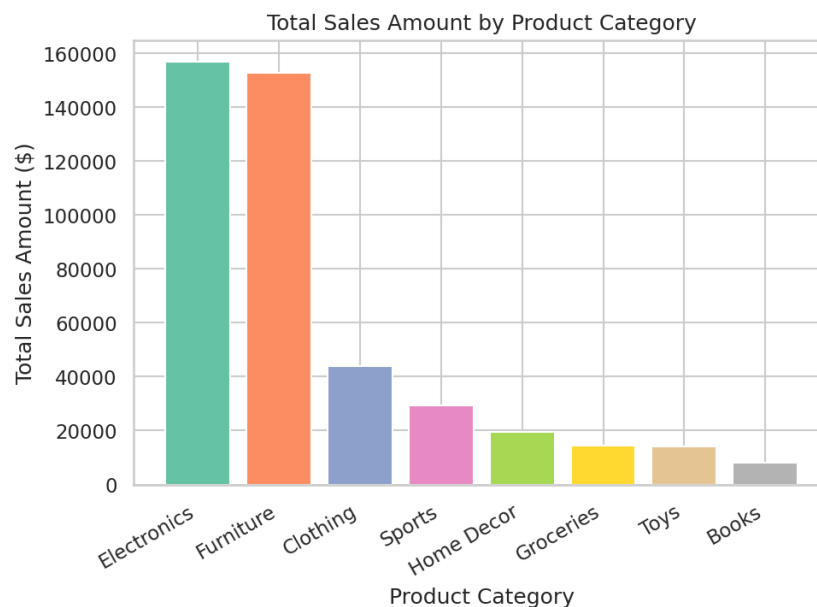
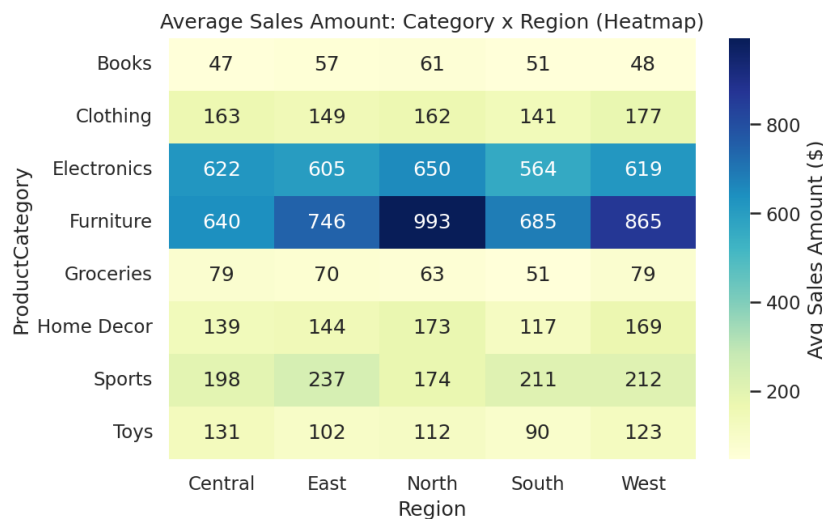
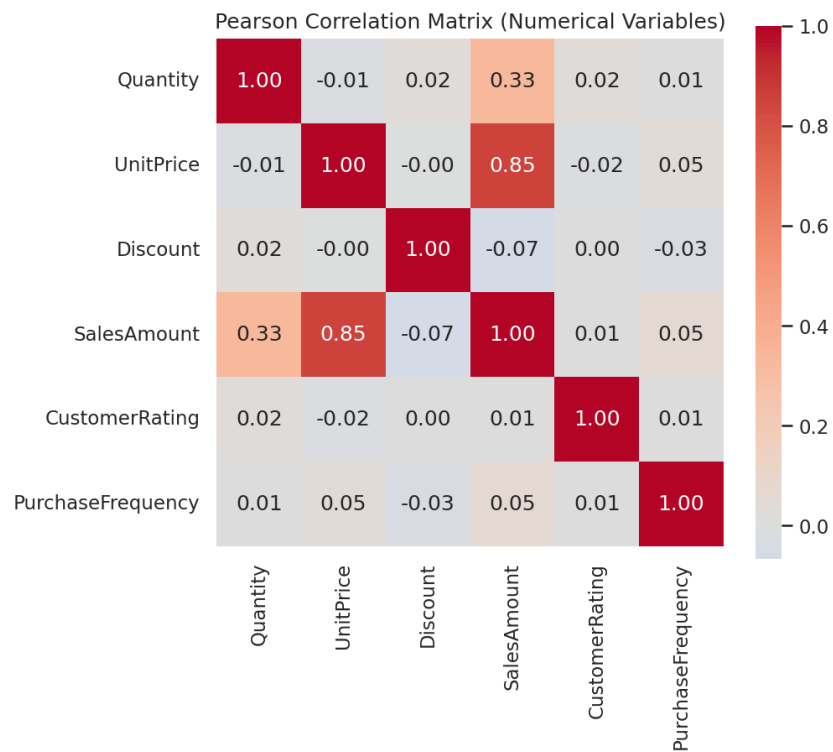
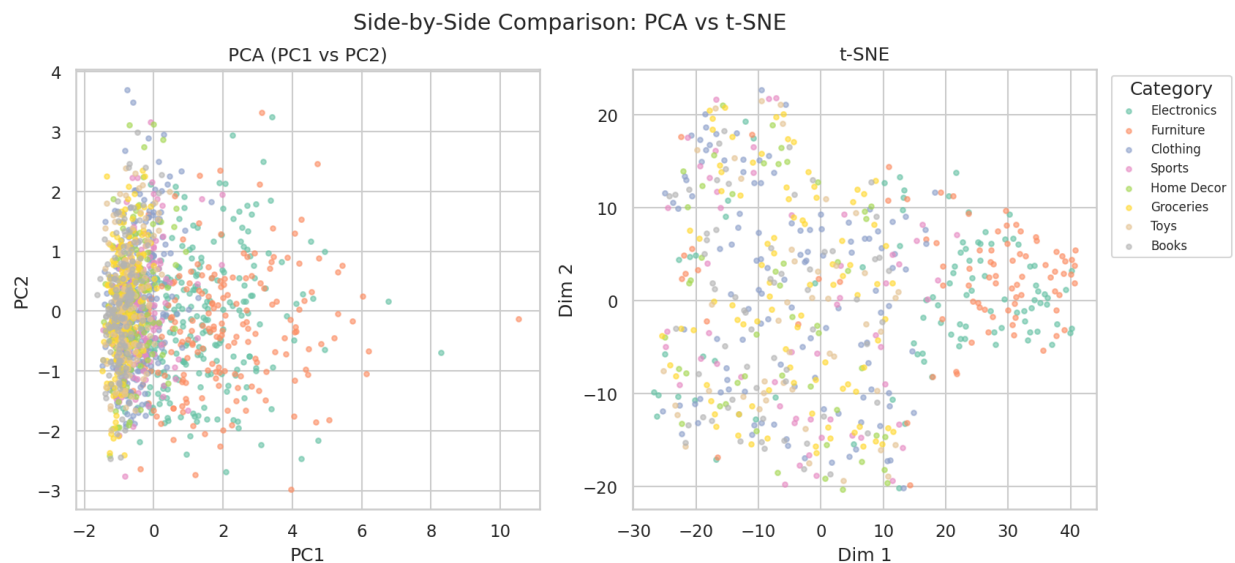

Figure 1: Total sales amount by product category (Bar Chart)
Figure 3: Average sales amount: category x region (Heatmap)
Figure 15: Pearson correlation matrix (numerical variables)
Figure 19: Side-by-side comparison: PCA vs t-SNE
- Position is the primary encoding I reach for whenever magnitude or distribution is the point (bar height in Figure 1, x-position of points in the scatterplot in Figure 12), simply because position along a shared scale is the visual channel our eyes read most accurately.
- For colour, qualitative palettes (seaborn's "Set2") separate out nominal categories like ProductCategory and CustomerSegment (Figures 1, 2, 17, 18); sequential palettes ("YlGnBu", "Blues", "viridis") handle continuous magnitude in the heatmaps and hexbin plots (Figures 3, 14); and a diverging palette ("coolwarm") drives the correlation matrix (Figure 15), since correlation values are signed and centred on zero.
Correlation matrix versus individual plots: the correlation matrix heatmap (Figure 15) is the right first step for six variables since it summarizes all pairwise linear relationships in one view, but it can't reveal non-linear patterns or the shape of a relationship - that's what the individual scatter and hexbin plots confirm afterward. PCA versus t-SNE: PCA gives a fast, interpretable, linear summary with quantified explained variance, which helps identify which combination of original variables drives most of the variation; t-SNE gives tighter, more visually separated local clusters that are easier to eyeball for grouping, but at a higher computational cost and without axes that mean anything directly. Both ran on the same standardized data for a fair comparison (Figure 19).
The Pearson correlation matrix heatmap (Figure 15) was, hands down, the single most useful visualization in this whole project. It condensed fifteen pairwise relationships into one view and immediately told me which pairs (UnitPrice-SalesAmount, Quantity-SalesAmount) were worth digging into further with scatter or hexbin plots, and which ones (Discount, CustomerRating) weren't strongly related to anything else - saving me the time it would've taken to inspect every pair one by one.